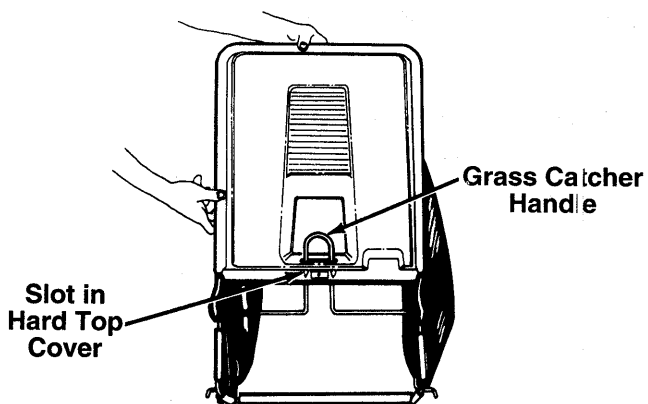

FIGURE 11.
- Slide the handle on the grass catcher frame into the slot in the hardtop cover from beneath the cover. See figure 11. ←